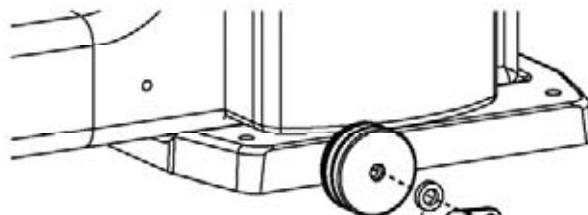

Fig. 11-1
**11-1:** Remove the 1/4 inch hex bolt from the rear right machine wheel. Align and fasten the Magnet Bracket Spacer, Magnet Bracket, and 1/4 inch Hex Bolt. (Fig. 11-1)